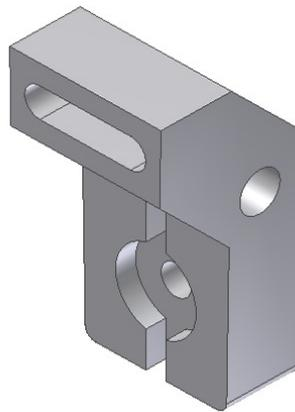
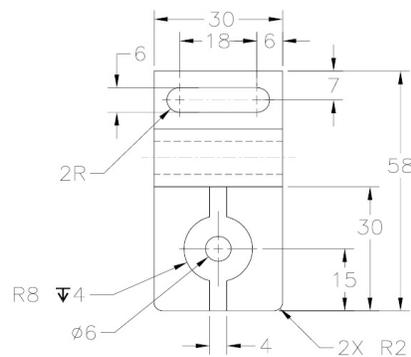
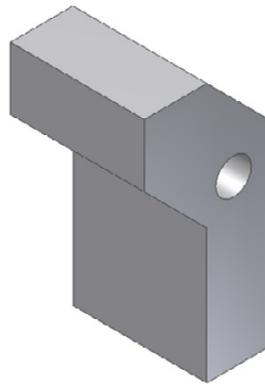
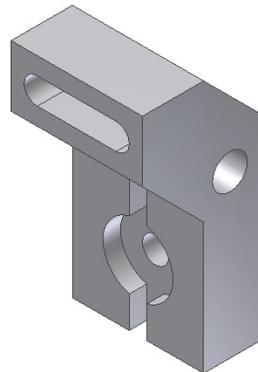

Figure 8-159a Model for Tutorial 4
Figure 8-159b Front view of the model
Figure 8-160 Base feature of the model
Figure 8-161 Model after creating the cut features
In this tutorial, you will create the model shown in Figure 8-159a. Its dimensions are shown in Figures 8-159b and 8-159c. After creating the model, apply a face draft of 1 degree on its left and right faces. The angle for the face draft should be 1 degree. **(Expected time: 45 min)**
- a. Create the base feature with a hole on the YZ plane, refer to Figure 8-160.
- b. Add cut features and holes to the base feature, refer to Figure 8-161.
1. Create the base feature of the model on the YZ plane, as shown in Figure 8-160. For dimensions of the base feature, refer to Figures 8-159b and 8-159c.
1. Create the cut features on the model. Figure 8-161 shows the model after creating the cut features. For dimensions of the cut features, refer to Figures 8-159b and 8-159c.